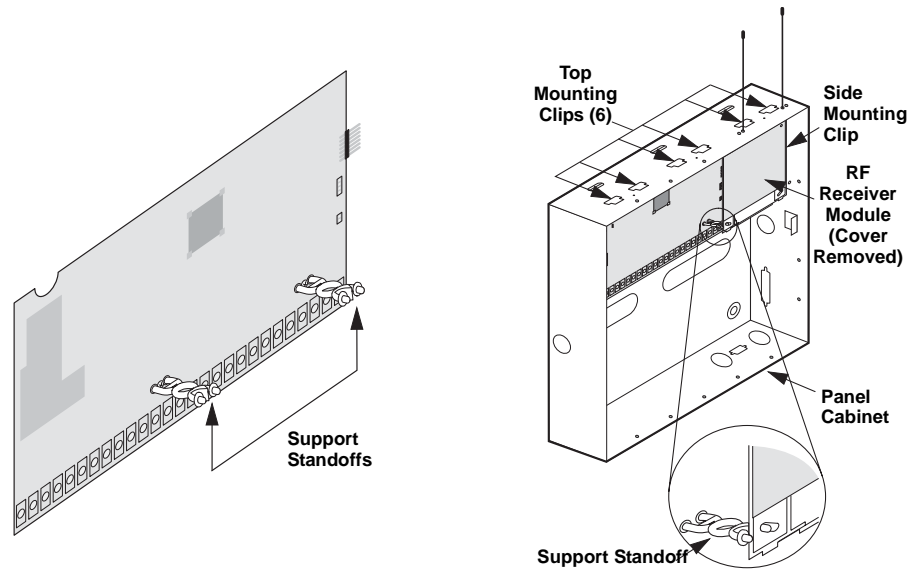

Figure 17. Installing SuperBus 2000 Modules (RF Receiver Shown)
SuperBus 2000 modules can be installed inside the panel cabinet or away from the panel. Use the following guidelines when installing modules inside the panel cabinet (see Figure 17):
1. Mount the receiver inside the cabinet enclosure as shown in Figure 17.